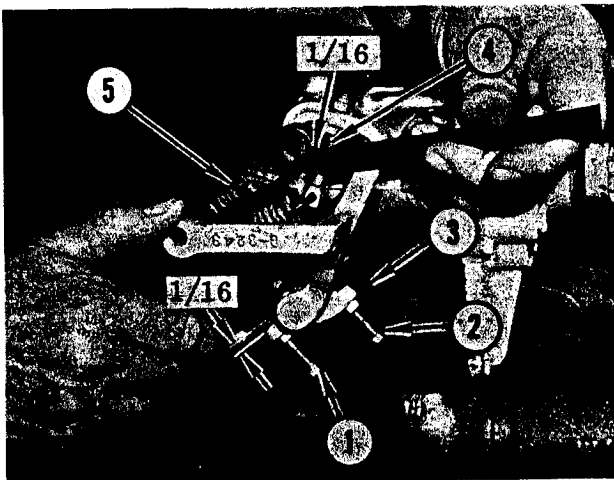

FIGURE 37. GOVERNOR ADJUSTMENT
Refer to Figure 37. Loosen locknut on stop bolt (1) and adjust stop bolt until $1/16$ " of threaded end of bolt extends through bracket. Tighten locknut.